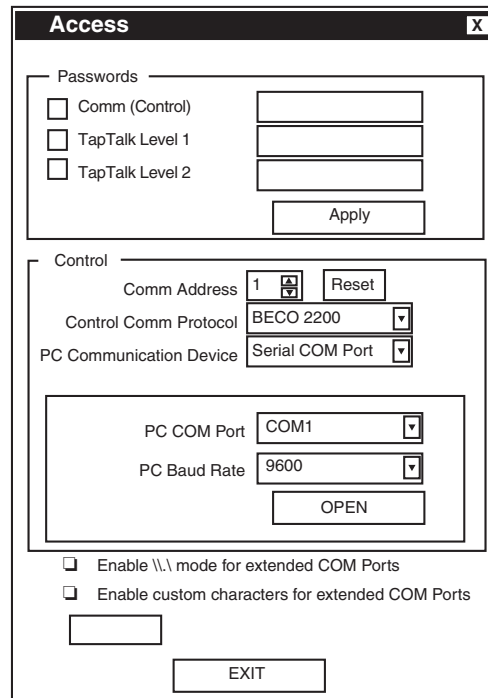

Figure 9-8 Communication Access (Serial) Dialog
1. Start the GE-2029A program, GE-2029A will display the **Communication Access** (Serial) dialog screen (Figure 9-8).
To address additional controls at the same location (Not applicable to Ethernet connections), the user must reset the control address from the Communication Access Screen (Figure 9-8). When RESET is selected, GE-2029A will respond with a confirming dialog screen, shown below. As long as communication to the remote location is maintained, the user can switch between controls.